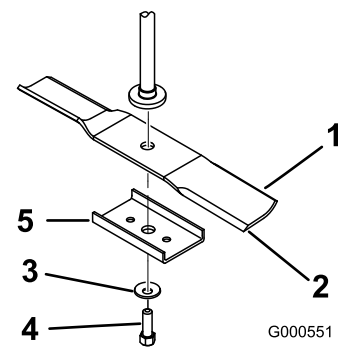

Figure 46
2. Remove the blade bolt, the curved washer, the blade stiffener, and the blade from the spindle shaft (Figure 46).
1. Install the blade onto the spindle shaft (Figure 46).
2. Install the blade stiffener, the curved washer (cupped side toward the blade), and the blade bolt (Figure 46).